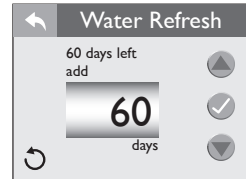

Figure 12.6d
1. From the “Water Care” Menu you can to set the “Water Refresh” timer, Figure 12.6d.